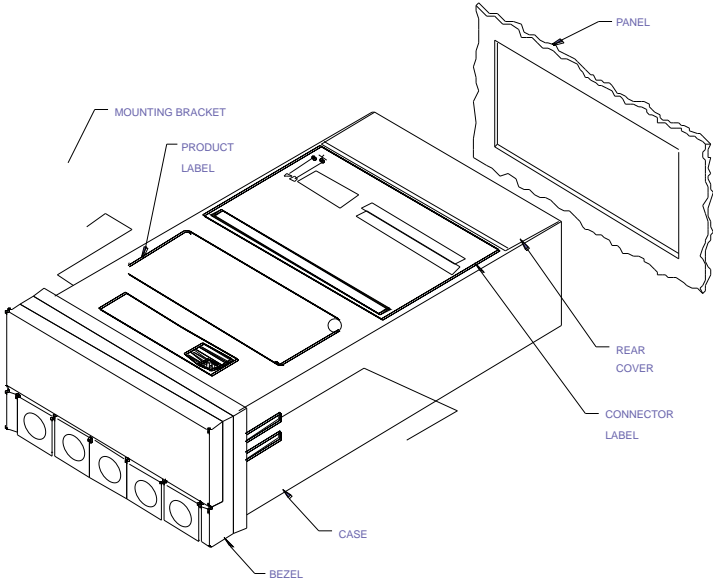
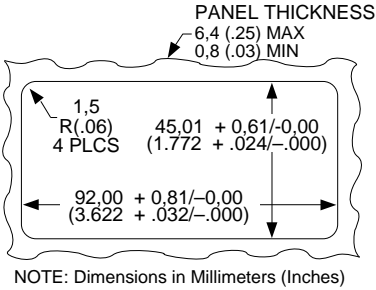

Figure 3-7. Meter - Exploded View
Figure 3-8. Panel Cut-Out
1. Cut a hole in your panel, as shown in Figure 3-7. For specific dimensions refer to Figure 3-8.